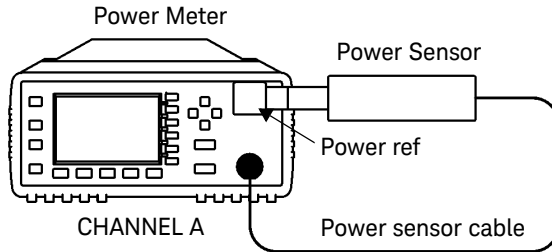
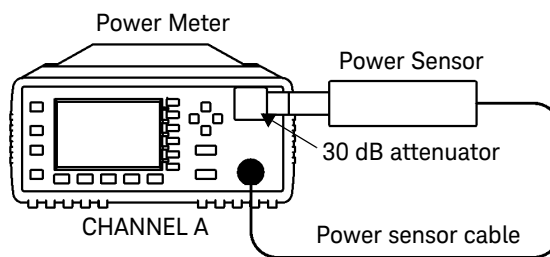

Figure 2-7 Sensor (Average Path) Functional Test Setup
Figure 2-8 Sensor (Average Path) Functional Test Setup With Attenuator
Refer to Figure 2-7 and Figure 2-8 below.
- 1 Connect the equipment as shown in Figure 2-7.
6 Connect the 30 dB attenuator as shown in Figure 2-8.
14 Disconnect the 30 dB attenuator and reconnect the test setup as shown in Figure 2-7.